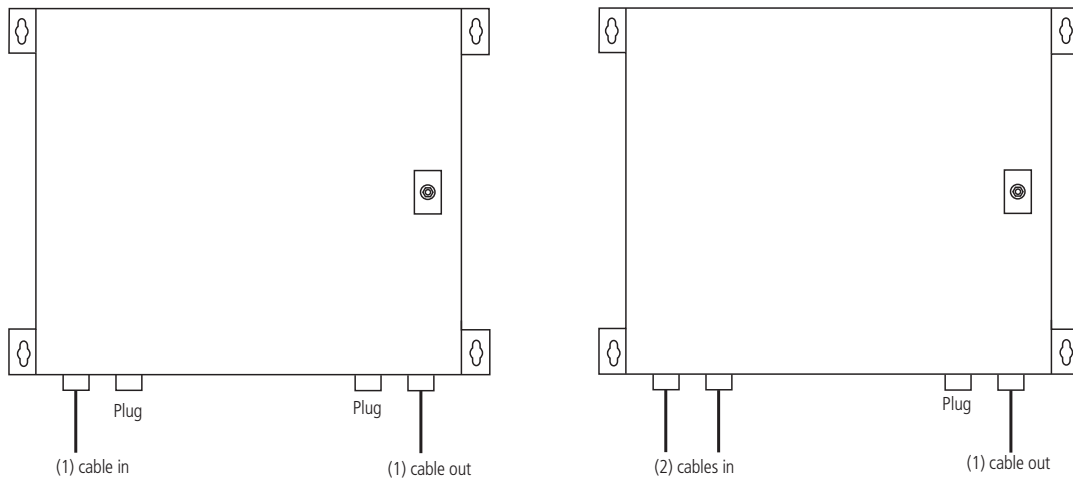

Figure 3. Left: One cable in/one out configuration; right: Two cables in/one out configuration.
6. Slide the fiber cable through the watertight seals. Then tighten the seal so the rubber gasket is secure around the cable trunk. The NEMA Rated Fiber Optic Wallmount Enclosure supports up to two trunks of fiber cable going into and two trunks of fiber cable going out the enclosure. Use this feature for applications that require routing trunk cables from several different inputs or when routing fiber cable to several different outputs. See Figures 3 and 4 for sample cable installation configurations.